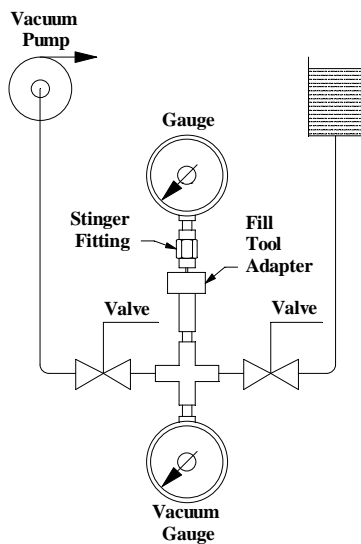

Figure 1
1. Assemble the vacuum filling kit as shown in figure 1. The vacuum pump can be either air powered or electric, which ever is convenient. If you are using an air-powered vacuum pump, make sure that you have a source of compressed air that can maintain 90-psi (6 bar) pressure continuously.